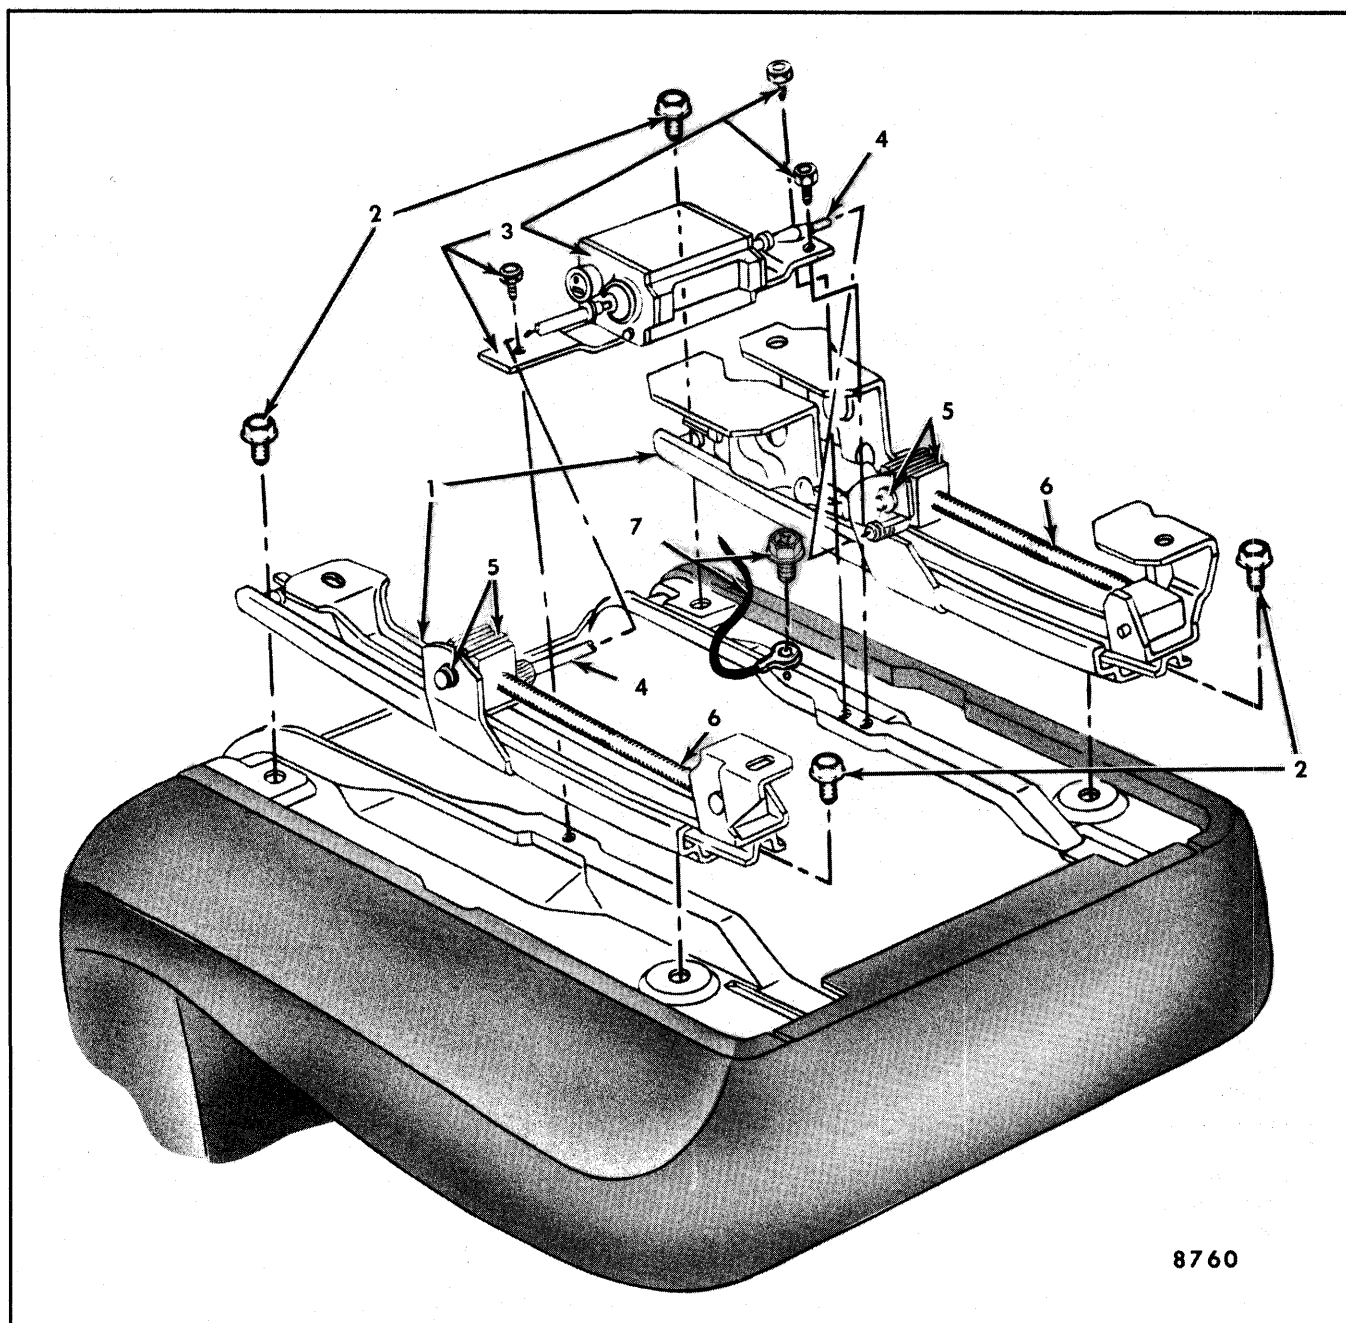

Fig.9-5-Passenger's Seat Power Operated Two-Way Seat Adjuster Installation
2. From seat adjuster being removed, remove seat adjuster-to-frame attaching bolts (see "2" in Fig. 9-5).
Removal and Installation - Refer to Figs. 9-5 and 9-6